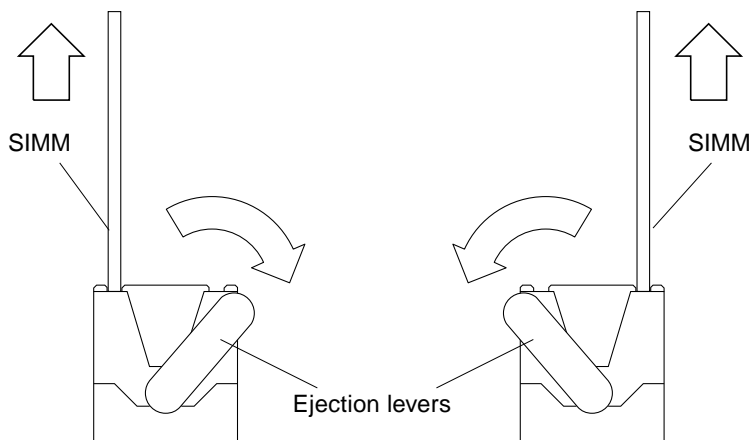

FIGURE 11-26 SIMM Ejection Levers
- Using the eraser end of a pencil, move the ejection lever away from the SIMM to be removed (FIGURE 11-26).